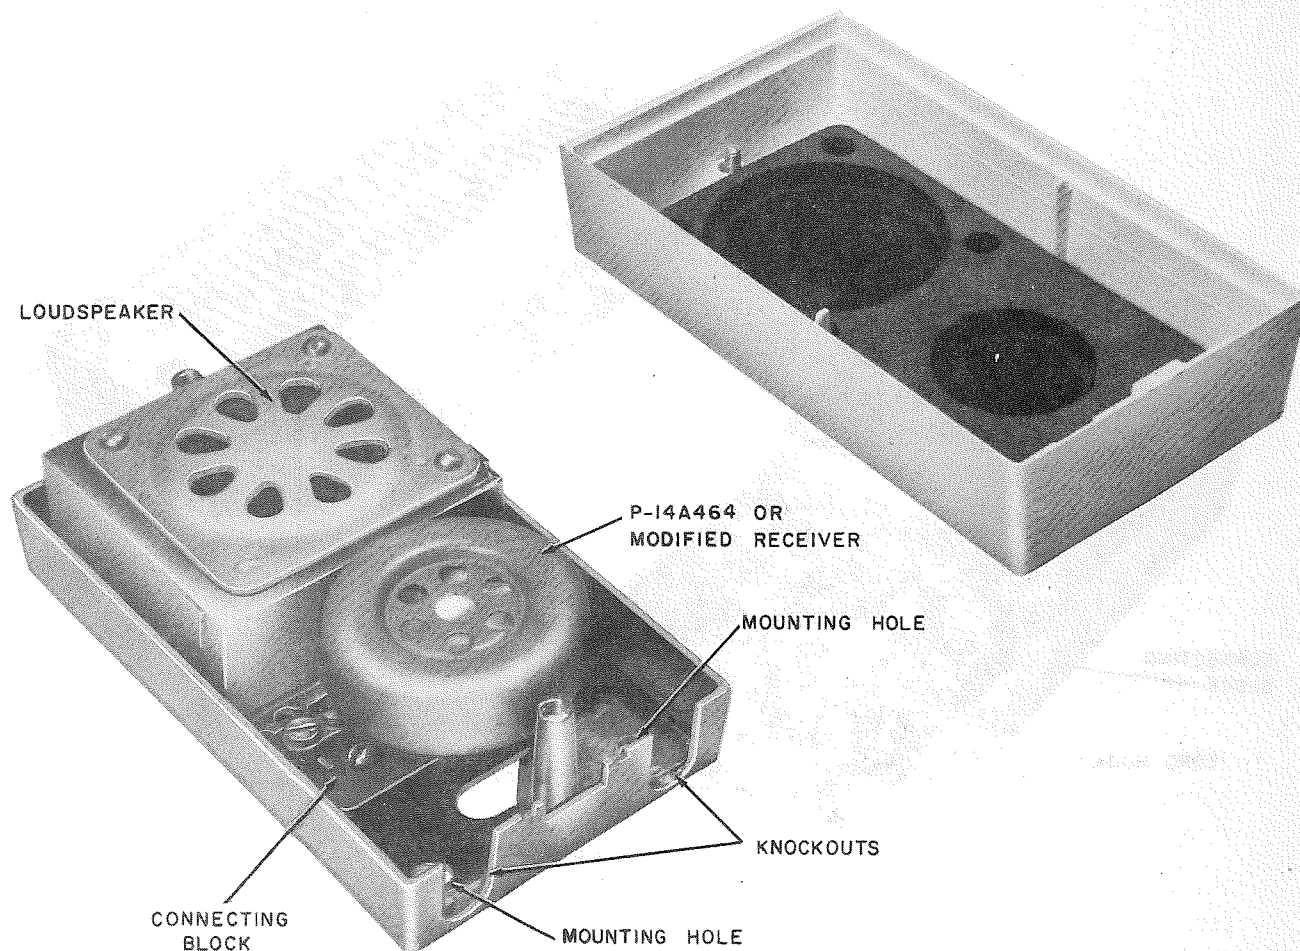

Fig. 3—730A (MD) Receiver
**2.08 730A (MD) Receiver** (door answering unit).
- (b) Four mounting holes are provided in the base (Fig. 3). Wiring may enter through two holes in base or through the end after removing one of the knockouts. A backboard is not required for mounting.
terminals on the receiver unit and the other pair connects to the 2 terminals on the connecting block, Fig. 3.